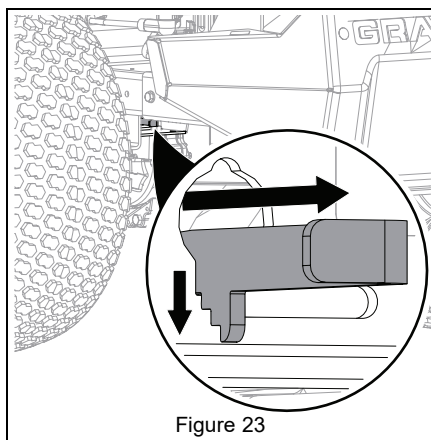

Figure 23
3. Pull both transaxle bypass levers out into bypass position. Move levers down slightly to secure position. See Figure 23.